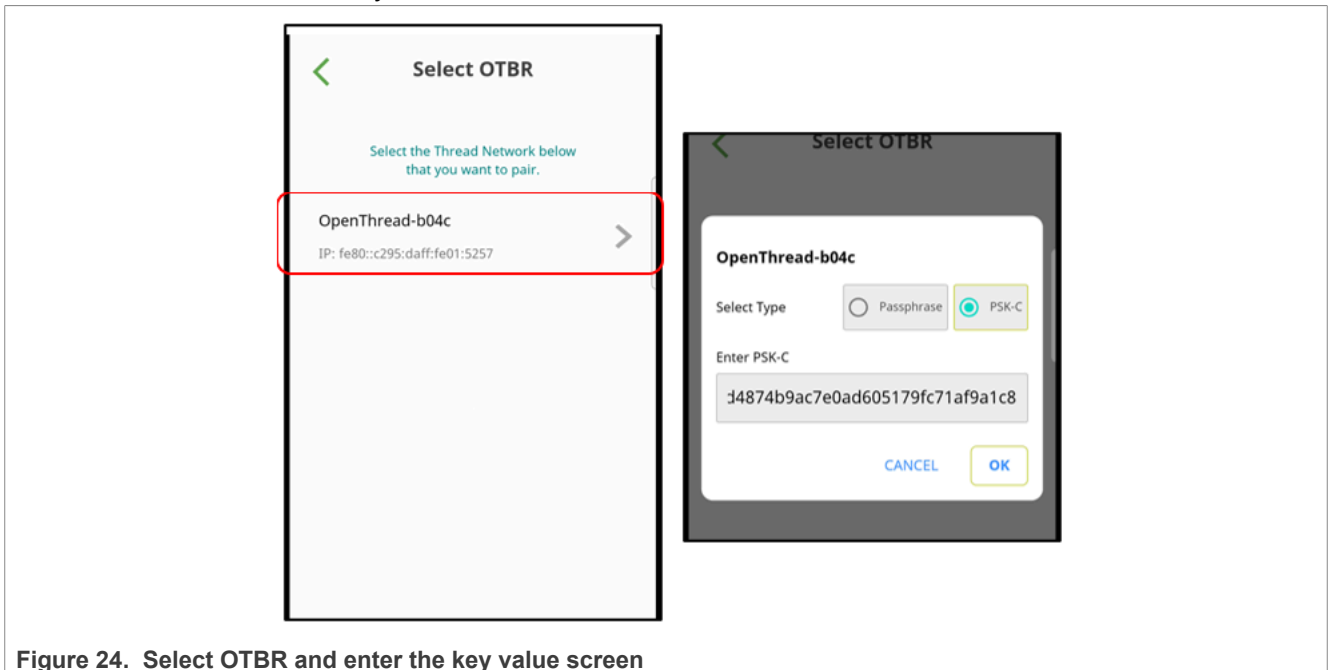

Figure 24. Select OTBR and enter the key value screen
3. **Select OTBR (Open Thread Border Router) network information on the Android tool:** As shown in Figure 24, select your network name and the correct key type (PSK-C), enter the PSK-C:<psck key>. **Note:** That OTBR discovery can take a few minutes. One to two minutes is normal.